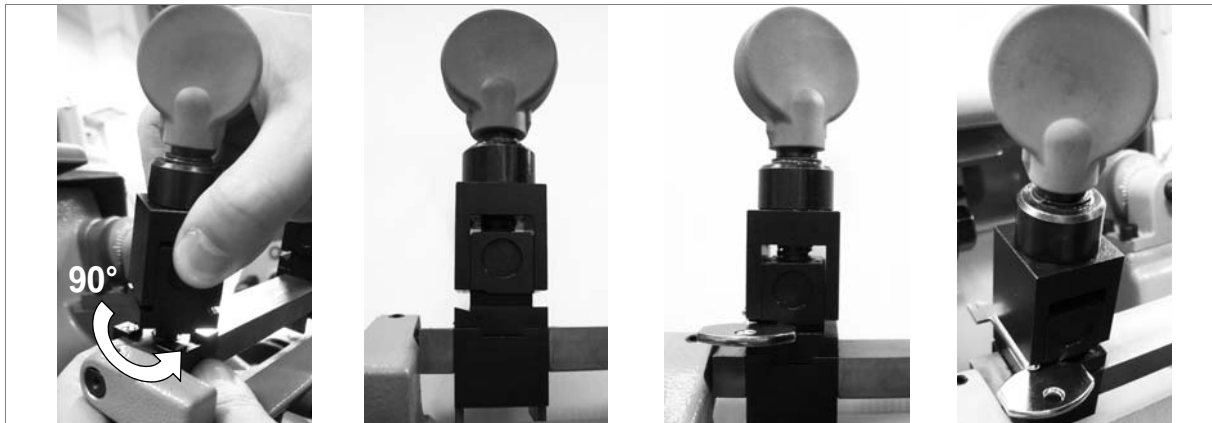

Fig. 52
- 1) Prepare the clamps with the bit key jaw turned 90° (fig. 52).
- 2) Lock the clamps into the horizontal position by means of the pin (L) (chap.7.1.4, page 23).
- 6) Raise the carriage with the handle (H) and take the cut key into contact with the tracer point to complete cutting.
- 7) Take the carriage back with the handle (H), go on to the next cutting position and continue from point 6.
- 8) When cutting is finished, turn off the switch (U) and remove the keys.